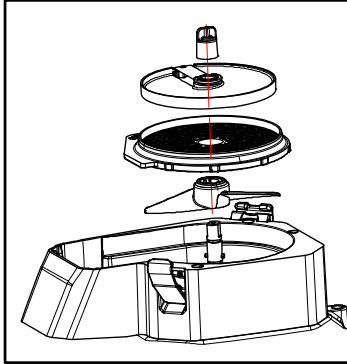

Fig.14
1. When using the dicing function, place the ejector and disc on the output shaft, as shown in Figure 14. When the center of the disc blocks the pin, press down all the way and turn clockwise, then install the gland.